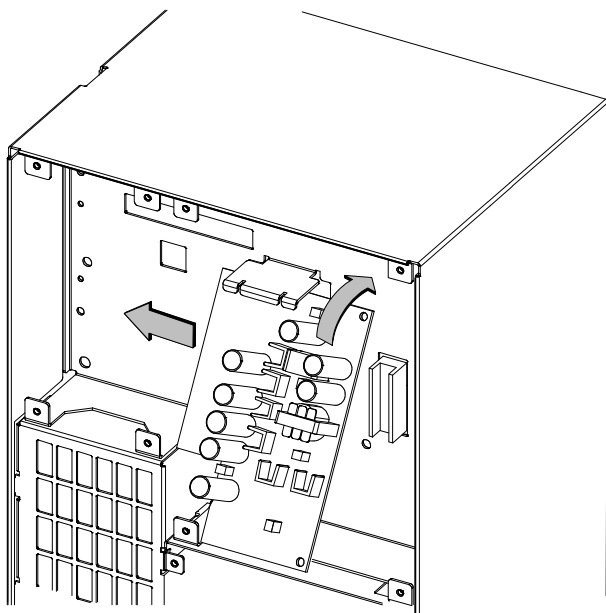

Figure 14.DC to DC Converter placement
2. Tilt the DC to DC Converter slightly forward (top edge) and slide to the left as shown in fig 14.